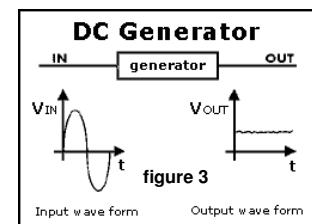

figure 3
a) *direct current (DC) power source* (see figure 3)